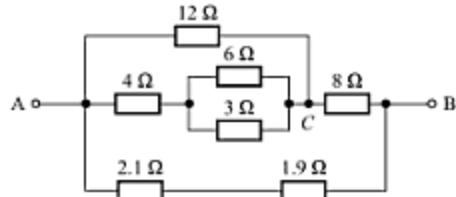

Fig. 2.36
10. Determine the total resistance between points A and B in the network shown in Fig. 2.36.